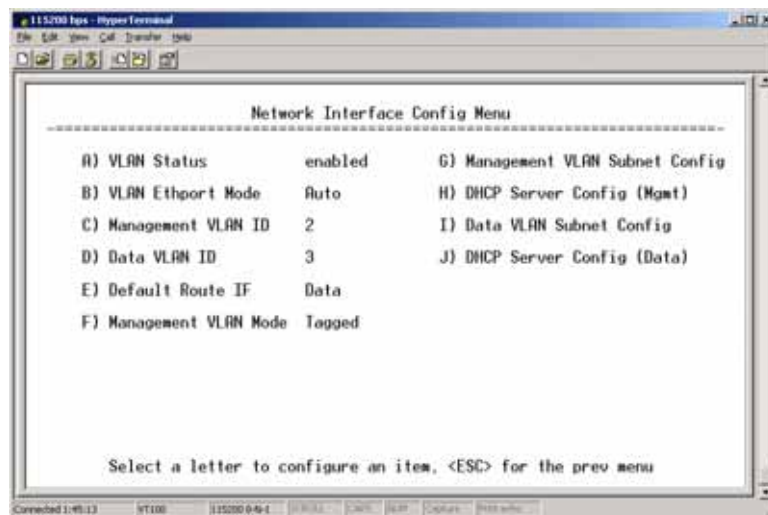
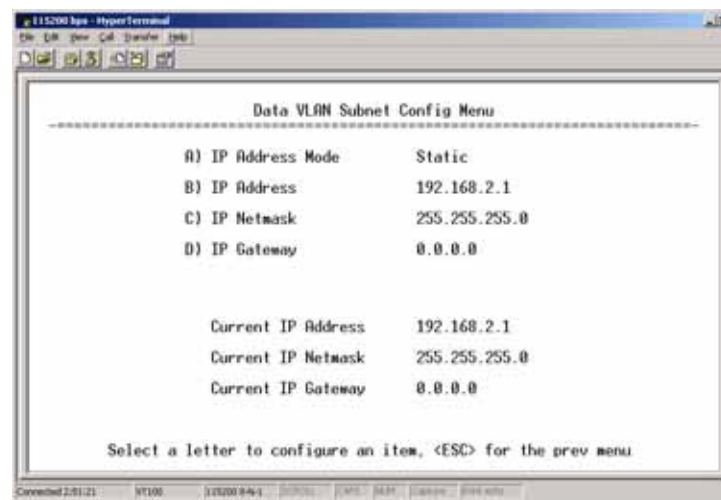

Figure 3-15. VLAN Configuration Menu
Figure 3-19. Data VLAN Subnet Configuration Menu
The VLAN Configuration menu (Figure 3-15) becomes active and visible when you enable **VLAN Status** on the Network Interface Configuration Menu, and you press the Enter key.
- **Data VLAN Subnet Config**—Presents a screen where you can view or set the IP mode and address information (see Figure 3-19 on Page 52).
The lower three lines of the screen (**Current IP Address, Current IP Netmask, Current IP Gateway**) show the current addressing configured at the transceiver. **Current IP Gateway** only displays on this screen if **Default Route IF** on the **Network Interface Config** menu (Figure 3-15 on Page 48) is set to **Management**.
Selecting option I from the menu in Figure 3-15 on Page 48 displays the screen shown in Figure 3-19 on Page 52. Note that the IP address is different even though it is the same physical unit. This is because this IP address is defined for a different VLAN.
The lower three lines of the screen (**Current IP Address**, **Current IP Netmask**, and **Current IP Gateway**) show the current addressing configured at the transceiver. **Current IP Gateway** only displays on this screen if **Default Route IF** on the **Network Interface Config** menu (Figure 3-15 on Page 48) is set to **Data**.